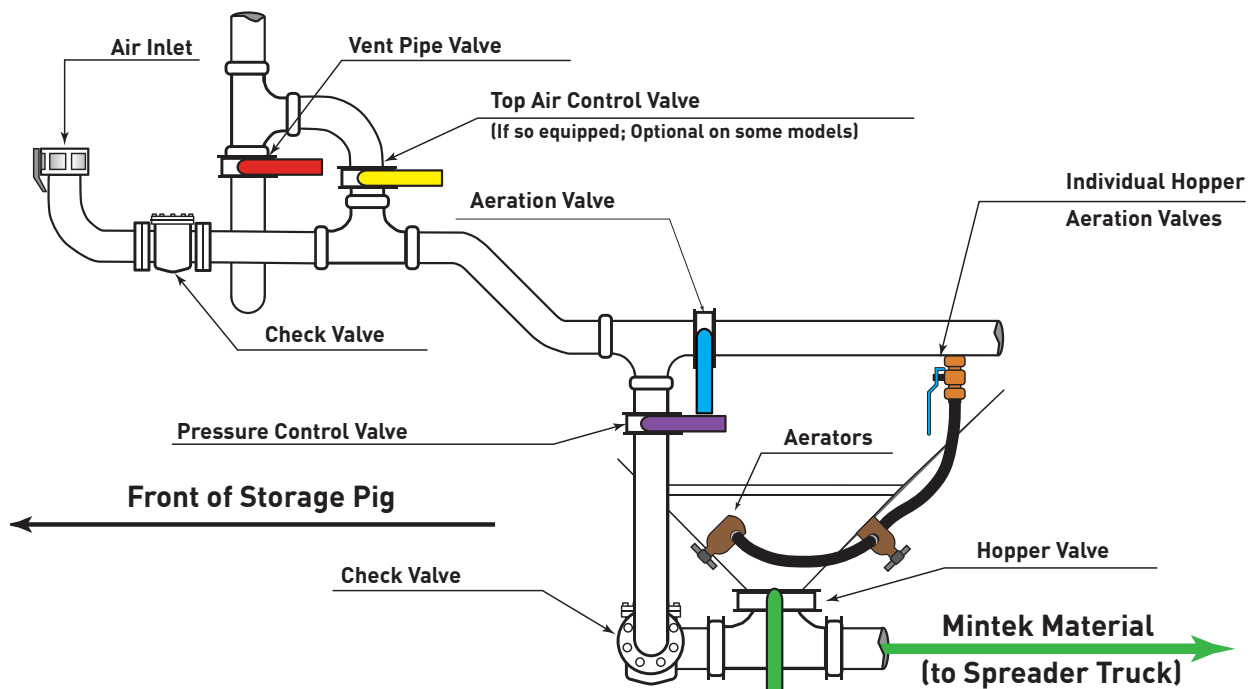

FIGURE 1. PIPING SCHEMATIC
- 1.3 Before loading or unloading a PIG, take note of the location and condition of hatches, aerator seals, pressure gauges, hoses, and valves (Figure 1). Clear debris and repair or replace any damaged equipment.